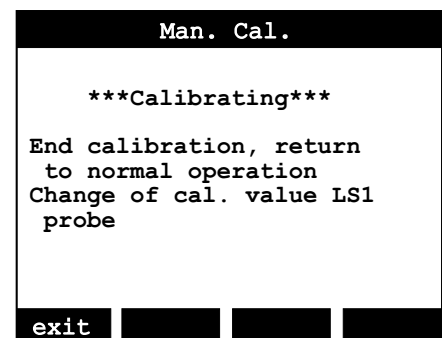

Fig. 4
**Change calibrated value, LS1 probe (Fig. 4).**